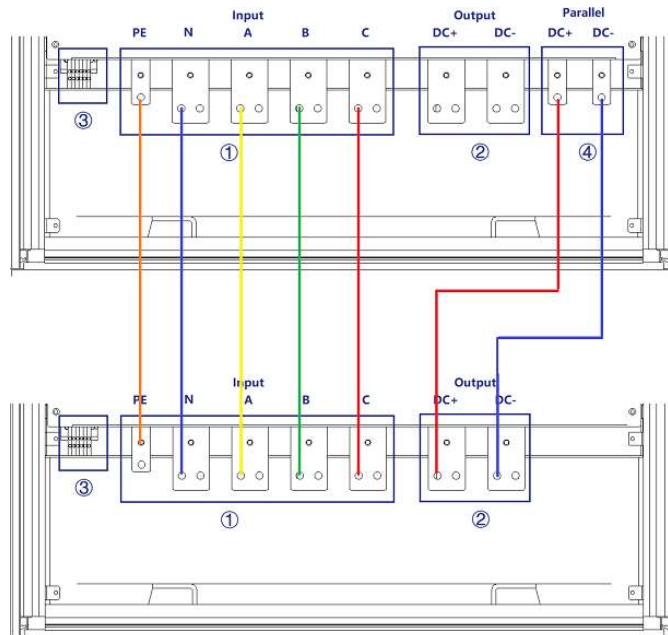

Figure 1-27 Parallel input and output cable connection diagram
**Step 3:** As shown in Figure 1-27, connect the input and output cables of the power supply.